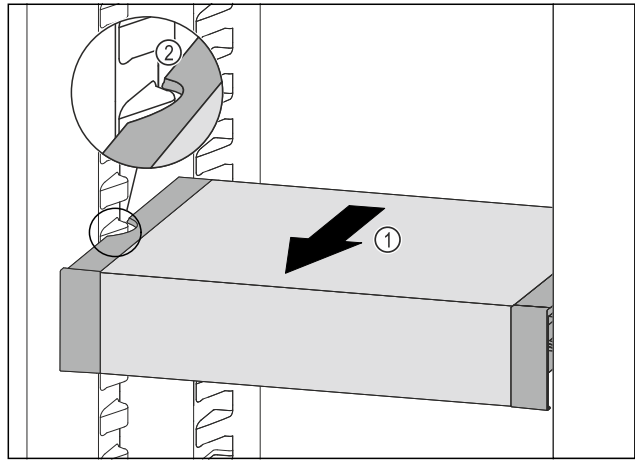

Fig. 78
- ▶ Pull VarioSafe forwards Fig. 78 (1) until the recesses in the side of the VarioSafe are at the level of the support rib in the fridge section. Fig. 78 (2)